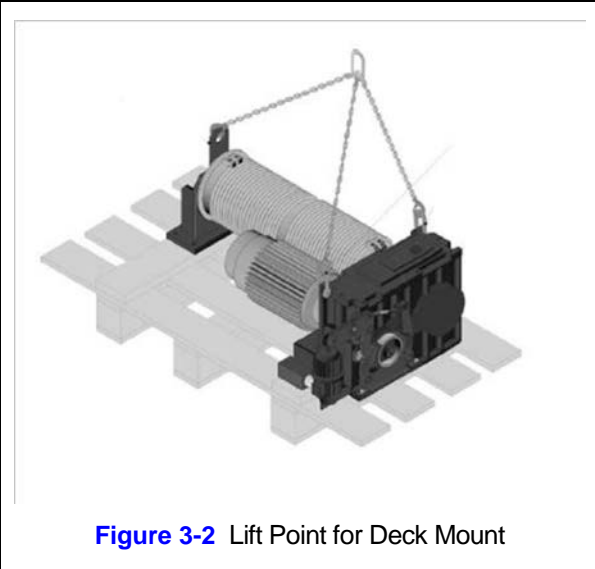

Figure 3-2 Lift Point for Deck Mount
- 3.2.2 Lift points – When a pallet/crate is not practical, use of RHN lifting location is acceptable. The RHN deck mounted hoist is equipped with lifting lugs to facilitate lifting, while the RHN trolley hoist is equipped with openings in the vertical tubes to accept hooks or slings (see Figures 3-2 and 3-3). While lifting do NOT support the deck mount hoist or trolley hoist any other way.